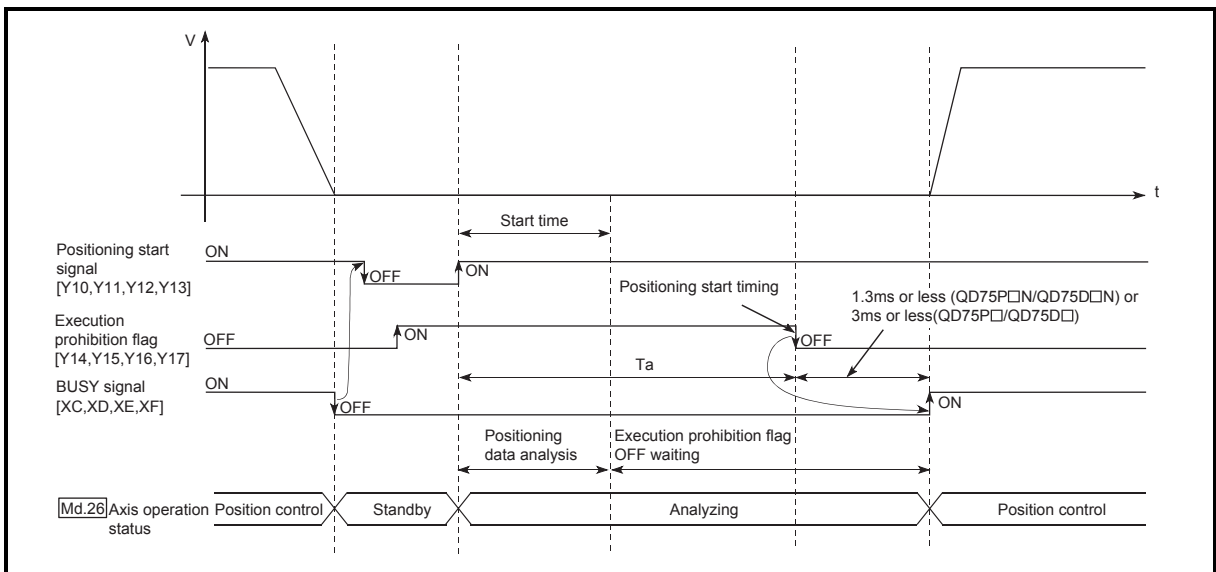
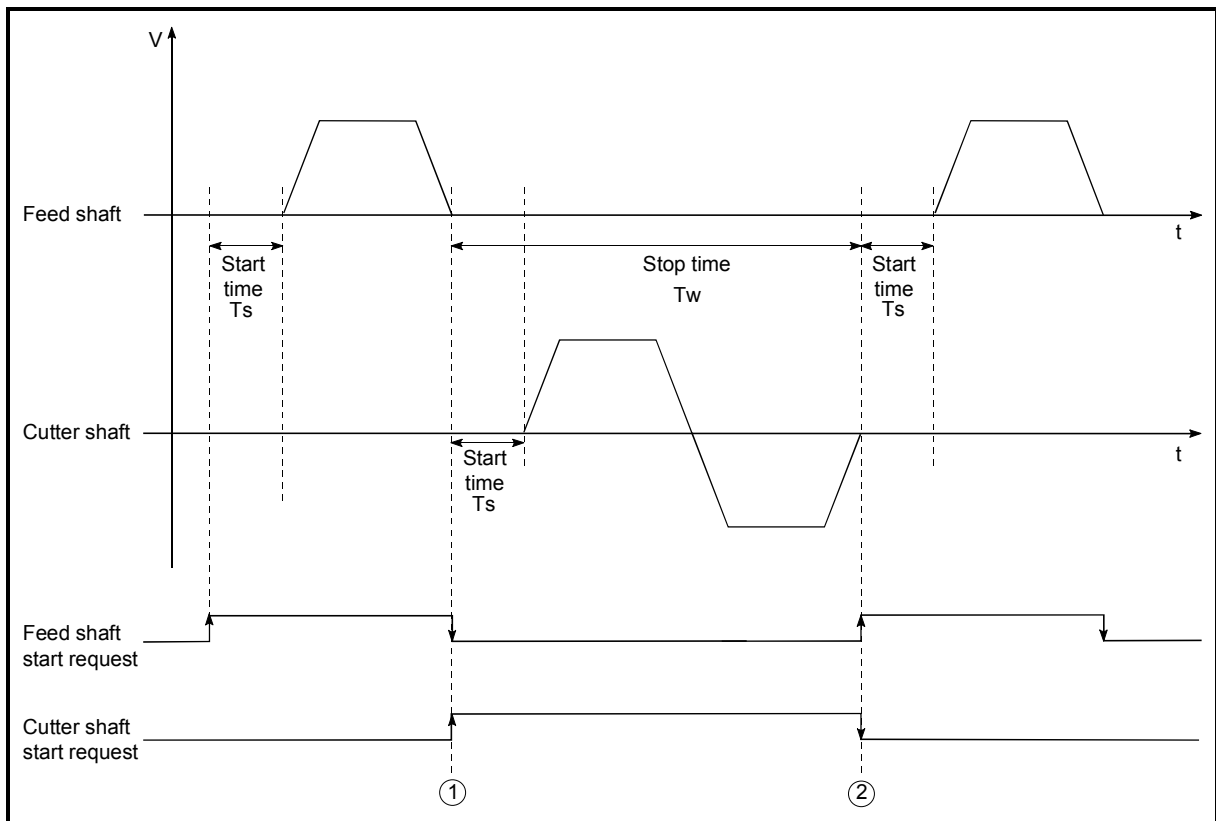

Fig. 12.52 Operations of pre-reading start function
Fig. 12.54 Operation timings of system example
The pre-reading start function is performed by turning ON the positioning start signal [Y10, Y11, Y12, Y13] with the execution prohibition flag [Y14, Y15, Y16, Y17] ON, or by executing the dedicated instruction (ZP.PSTRT1, ZP.PSTRT2, ZP.PSTRT3, ZP.PSTRT4). However, if positioning is started with the execution prohibition flag ON, the positioning data is analyzed but pulse output is not provided. While the execution prohibition flag is ON, " [Md.26] Axis operation status" remains unchanged from "5: Analyzing". Pulse output starts within 1.3ms (QD75P□N/QD75D□N) or 3ms (QD75P□/QD75D□) after the execution prohibition flag [Y14, Y15, Y16, Y17] has turned OFF, and " [Md.26] Axis operation status" changes to the status (e.g. "Position control", "Speed control") that matches the control system. (Refer to Fig. 12.52)
to cut the stock to fixed size. The operations of the feed shaft and cutter shaft are represented as shown in Fig. 12.54.
In Fig. 12.54, the feed shaft stands by during the stop time T_w . Hence, pre-reading of the next data starts during the stop time T_w . If T_w is a certain period of time, the analysis of the next data is completed during that period, and the system is placed in an execution prohibition flag OFF waiting status. Therefore, replacing the positioning start timing at ② with the execution prohibition flag OFF allows the time from when the axis operation request turns ON until pulse output starts to be reduced to within 1.3ms (QD75P□N/QD75D□N) or 3ms (QD75P□/QD75D□) in the sequence program. (Refer to Fig. 12.52.)
- (1) The time required to analyze the positioning data is up to 7ms.
- (2) After positioning data analysis, the system is put in an execution prohibition flag OFF waiting status. Any change made to the positioning data in the execution prohibition flag OFF waiting status is not reflected on the positioning data. Change the positioning data before turning ON the positioning start signal.
- (3) The pre-reading start function is invalid if the execution prohibition flag is turned OFF between when the positioning start signal has turned ON and when positioning data analysis is completed (Ta < start time, Ta: Refer to Fig. 12.52).
- (4) The data No. which can be executed positioning start using "Cd.3 Positioning start No." with the pre-reading start function are No. 1 to 600 only. Performing the pre-reading start function at the setting of No. 7000 to 7004 or 9001 to 9004 will result in an error "Outside start No. range" (error code: 543).
- (5) Always turn ON the execution prohibition flag at the same time or before turning ON the positioning start signal. Pre-reading may not be started if the execution prohibition flag is turned ON during Ta after the positioning start signal is turned ON. The pre-reading start function is invalid if the execution prohibition flag is turned ON after positioning start (pulse output) with the execution prohibition flag OFF. (It is made valid at the next positioning start.)